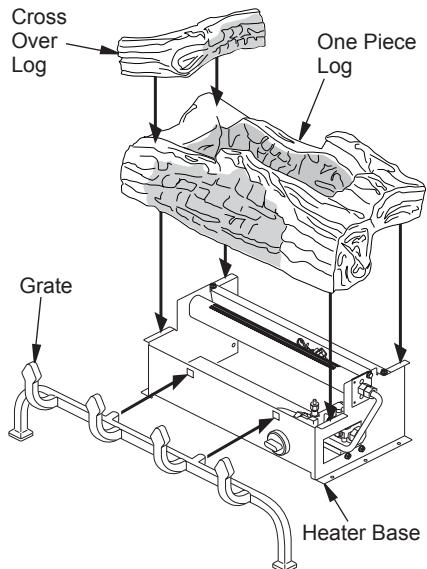

Figure 18 - Installing Grate and Logs
1. Place grate into square holes on heater base as shown in Figure 18.
2. Place one piece log over burner so that the back sits on back tabs and front rests on front tabs and grate fingers (see Figure 18, page 15).
3. Place crossover log onto flat surfaces of one piece log (see Figure 18, page 15).